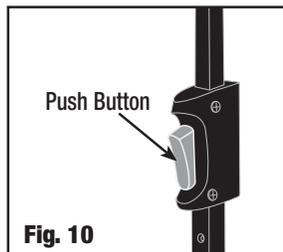

Fig. 10
- Lower the frame one post at a time by pressing the push button locks located on lower portion of posts (Fig. 10).